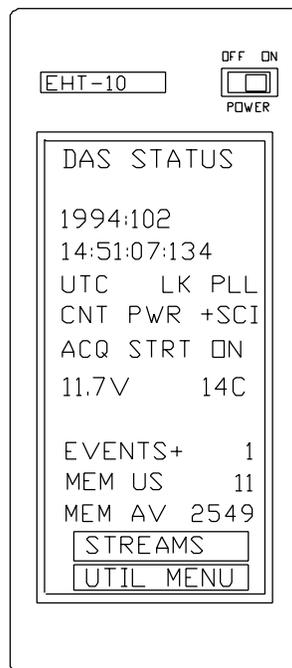

Figure 13 DAS Status Screen
- * Press **DAS State** to the Utilities Function menu. The hand terminal displays the DAS Status screen, as shown in figure 13. You can obtain additional information on the data stream parameters in the DAS by pressing **Streams** at the bottom of the screen.
The DAS Status screen displays information on any external clock used with the DAS (this information is shown in figure 13 as UTC LK PLL). This line provides external clock type, external clock status, and internal phase lock loop status.
The DAS Status screen displays information on the supply of power to the DAS (shown as CNT PWR on figure 13). FST displays the power state information in one of the following forms:
The DAS Status screen provides information on the current state of data acquisition (shown as ACQ STRT ON on figure 13).
The DAS Status screen displays a value for battery voltage (shown as 11.7V on figure 13), if the DAS contains an RT344 power supply board. FST displays a value of 00.0 for battery voltage when you request DAS status from a DAS that lacks an RT344 board. FST displays voltage changes in minimum increments of 0.1 volts.
The DAS Status screen displays a value for internal temperature (shown as 14.2C on figure 13), if the DAS contains an RT344 power supply board. FST displays a value of 000 for internal temperature when you request DAS status from a DAS that lacks an RT344 board. FST usually displays temperature changes in increments of 2° C, although FST will infrequently display a change of 1° C.